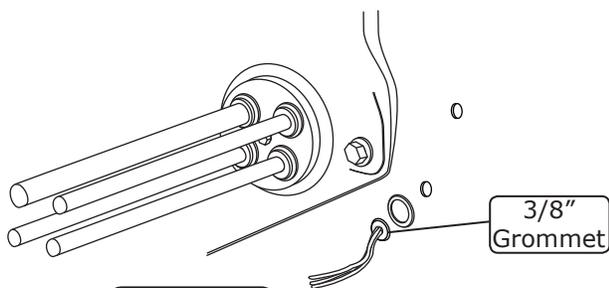

Figure 17
2. Route A/C wires (12 volt/grounds/binary switch/heater valve) through 3/8" grommet as shown in Figure 17, below.